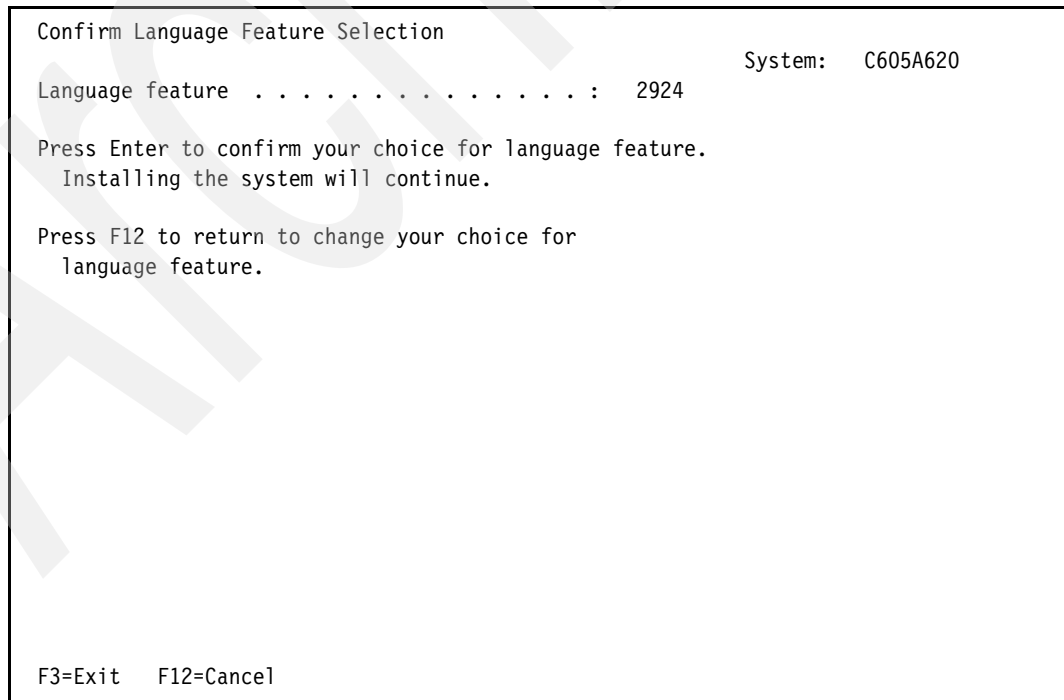

Figure 6-78 IBM i Confirm Language Feature Selection panel
17. We confirm the language feature selection by pressing Enter again, as shown in Figure 6-78.